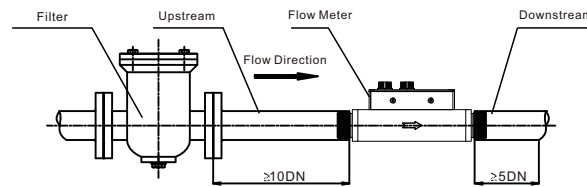

Figure 5-2
- (I) It is preferably to first install the inlet end of the meter and then the outlet end of the meter; To ensure the measurement accuracy, an upstream straight pipe of length no less than 10DN and a downstream straight pipe of length no less than 5DN should be in place. (Fig 5-2)